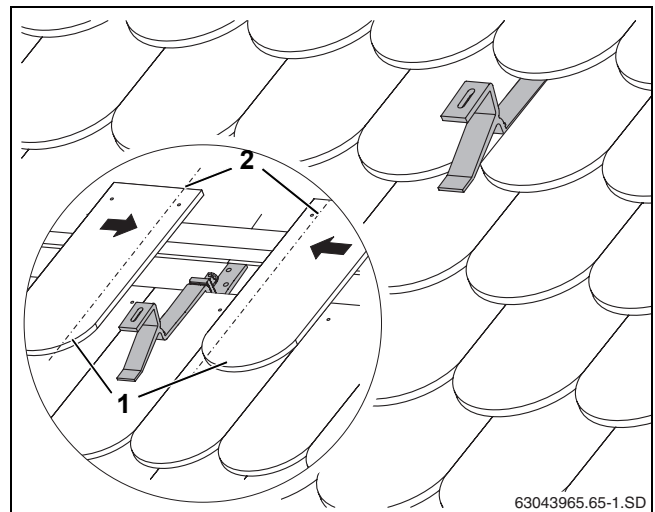

Fig. 19 Roof hook with covered roof
- ▶ Cut adjacent flat tiles (Fig. 19, [1]) (dotted line, Fig. 19, [2]).